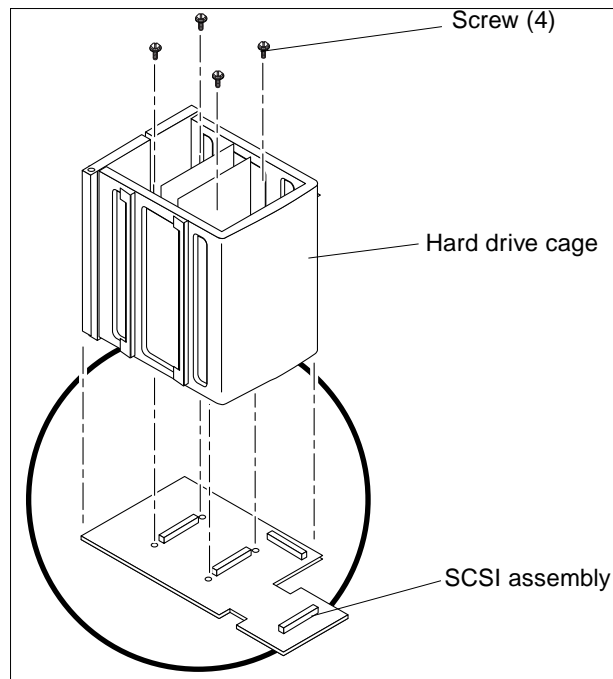

FIGURE 7-13 Removing and Replacing the SCSI Assembly (Sheet 2 of 2)
- 10. Remove the SCSI assembly as follows (FIGURE 7-13):**
1. **Replace the SCSI assembly as follows (FIGURE 7-13):**